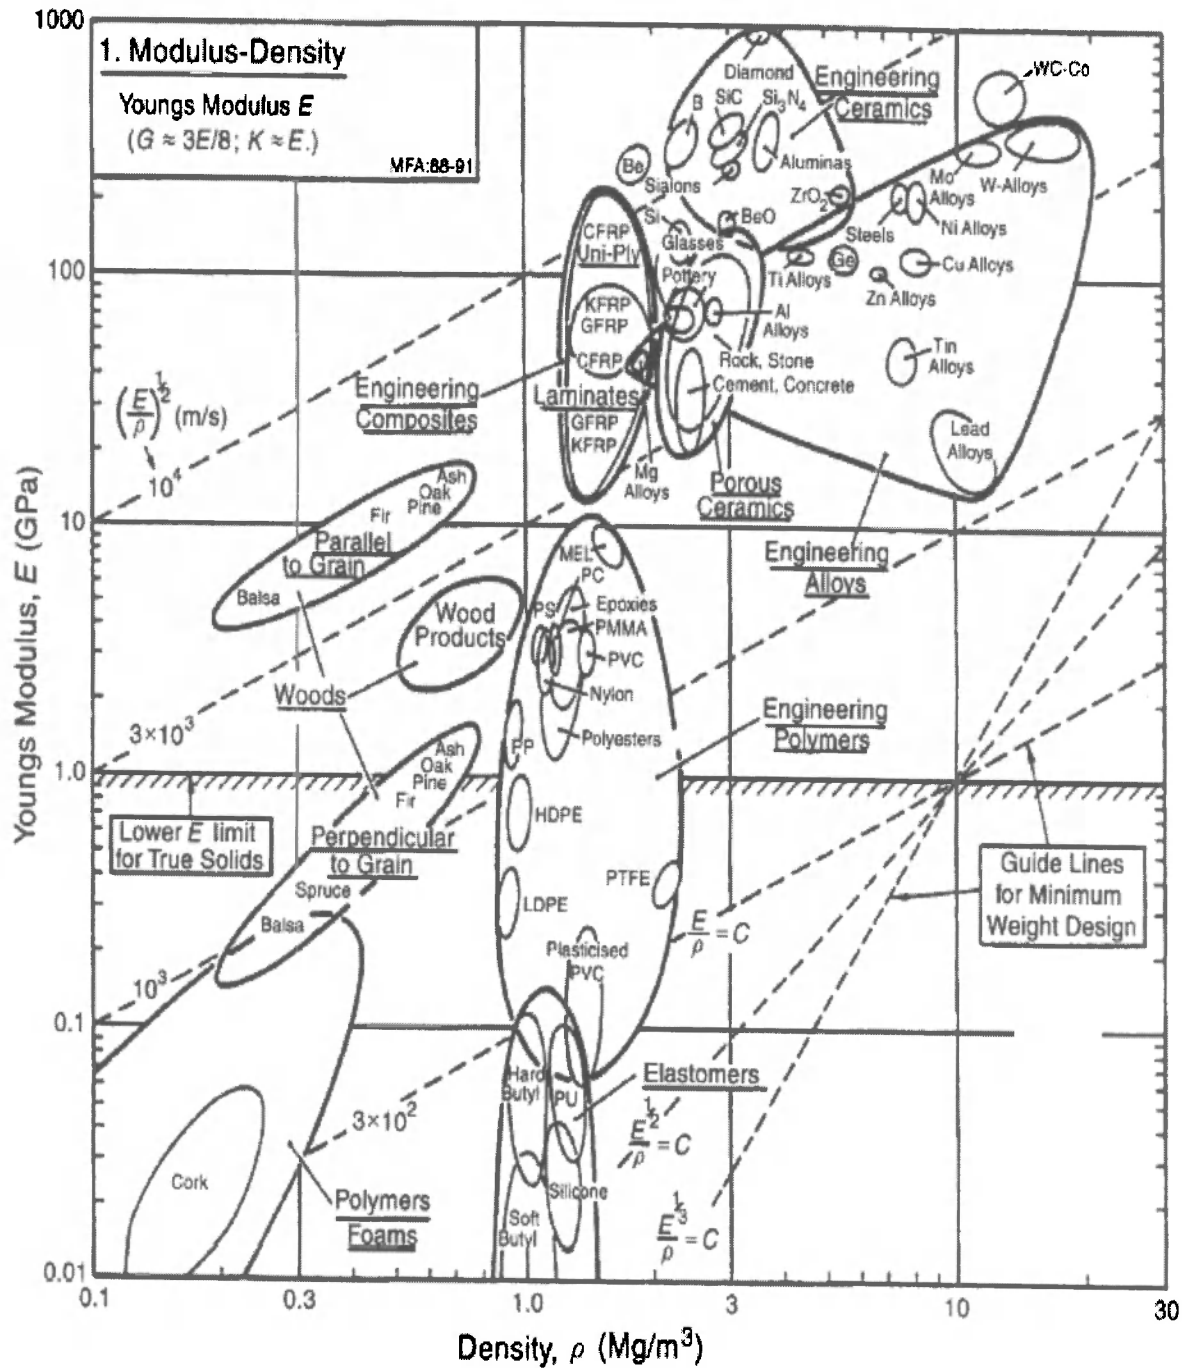

FIGURE 2
- iv) Based on the selection criteria from above conditions, sketch clearly your selection region in available charts (FIGURE 2). Show all the calculation in details. (5 marks)